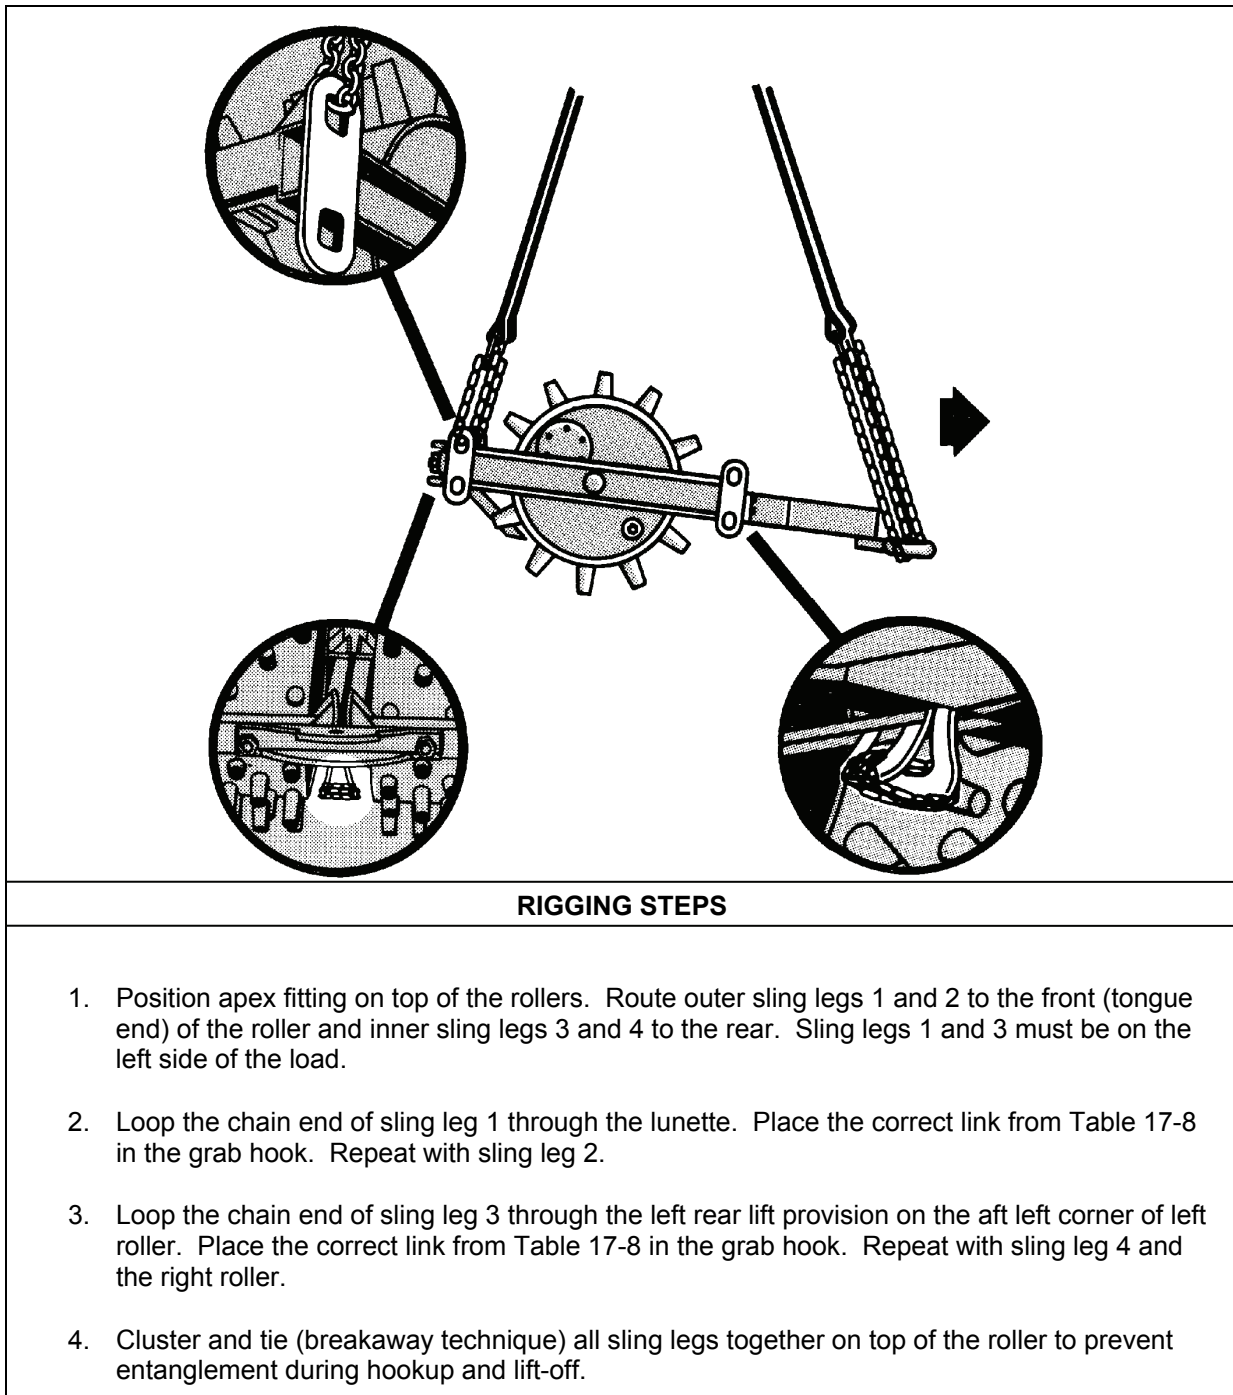

Figure 17-8. Sheepsfoot Roller, Two-Drum, MD-96
- **Rigging.** Rig the load according to the steps in Figure 17-8.